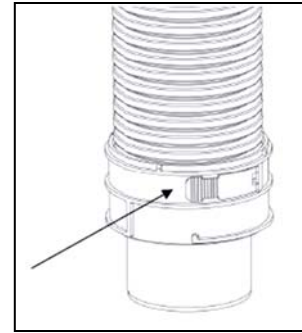

Figure 4 – Fixing the Adapter
6. Fix the adapter on the liner with the latching tabs (Fig. 4).